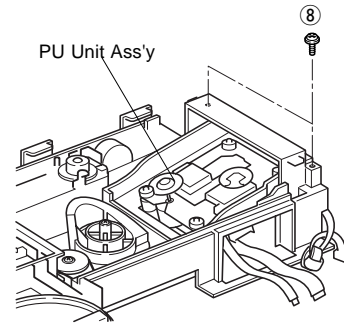

Fig. 4
- a. Remove 2 screws (⑧) and then remove the PU Unit Ass'y as shown Fig. 4.